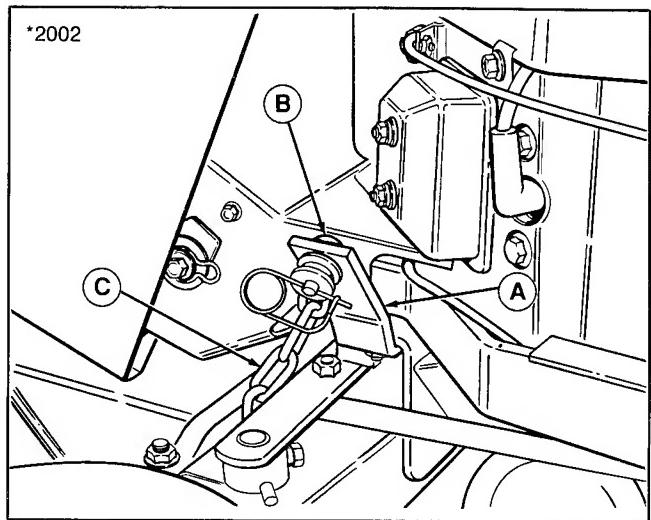

Figure 3. Install Spring Assist Bracket
On single cylinder tractors, clevis pin (B, figure 3) must be installed to bracket before mounting bracket on tractor frame.
7. Install the spring-assist bracket (A, figure 3) to tractor frame (bracket is mounted underneath frame). Secure with capscrew (from top), lockwasher, and nut. Place clevis pin (B) through bracket and install flat washer, chain (C), flat washer, and safety clip (D).